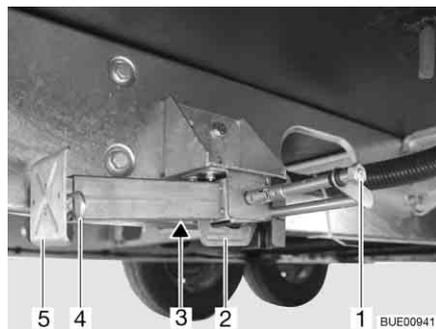

Fig. 21 Steady leg
- Place the socket spanner on the hexagonal nut (Fig. 21,1) and rotate until the steady leg is in a perpendicular downward position.
- If the length of the steady leg can be adjusted, remove the splint (Fig. 21,4) out of the support foot extension (Fig. 21,5).
- Place the socket spanner on the hexagon nut (Fig. 21,1) and rotate until the steady leg is clear of the ground.
- Push in the support foot extension (Fig. 21,5) and insert the splint (Fig. 21,4) in the drilled hole in the support foot extension.
- Rotate the hexagonal nut (Fig. 21,1) until the steady leg has swung upwards and the guide (Fig. 21,2) has reached the very end of the slot (Fig. 21,3).